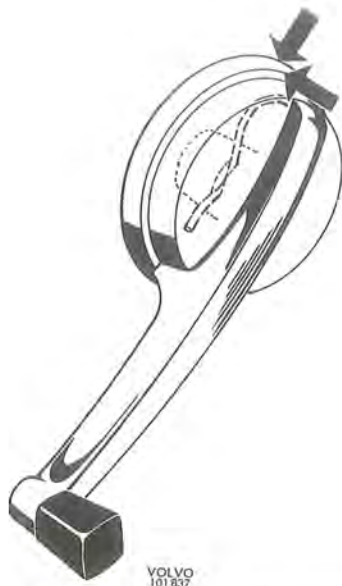

Fig. 8-10. Removing winding handle
2. Remove the window winding handle by pressing in the washer towards the door upholstery and the towards the handle in the same direction as the handle as shown in Fig. 8-10. This releases the spring clip and the winding handle can be taken off.
When fitting, make sure that the spring clip is fitted so that its open end faces towards the winding handle as shown in Fig. 8-10.